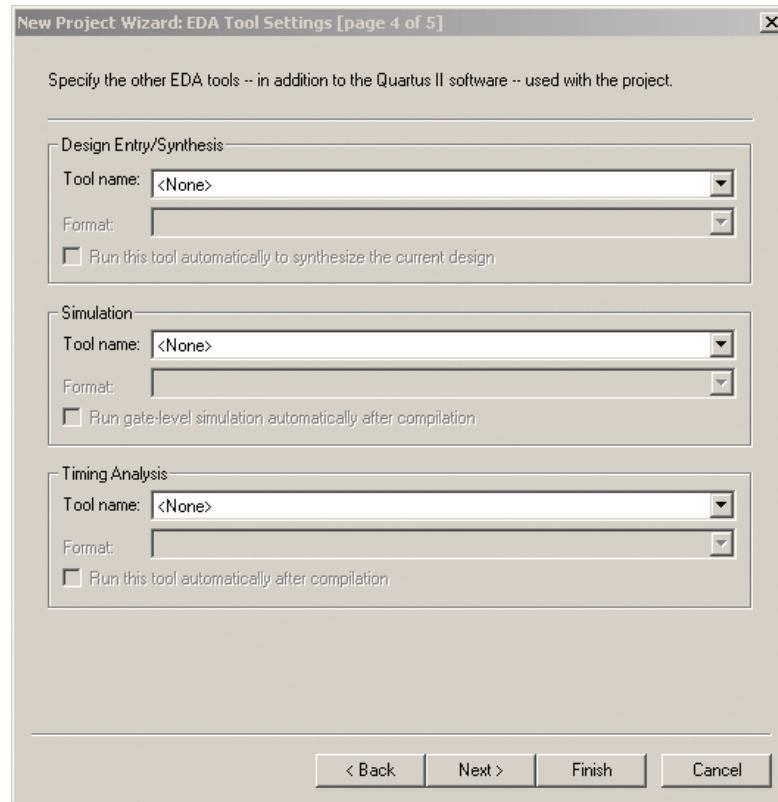

Figure 20 The New Project Wizard screen (4 of 5).
6. The fourth wizard screen is shown in Figure 20. We have no additional EDA tools to use so press **Next** to proceed to the fifth screen.